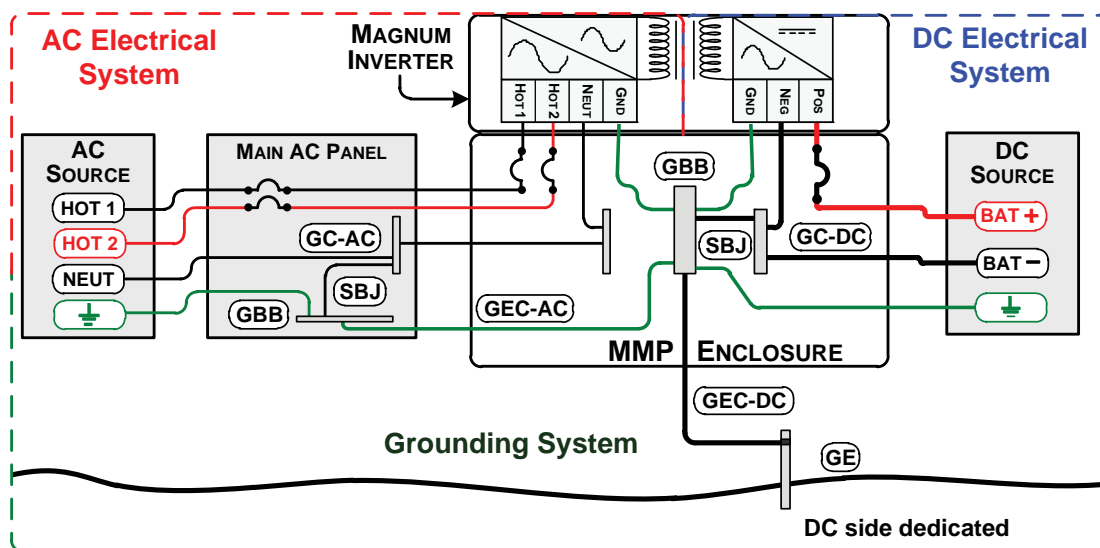

Figure 2-19, Single Connection to DC Ground Rod (Method 1)
1. Single Connection to Ground (Method 1): The AC Grounding Electrode Conductor (GEC-AC) is bonded to the DC ground point and the DC Grounding Electrode Conductor (GEC-DC) is the *only connection* to the grounding electrode, which must be a rod, pipe, or plate electrode (see Figure 2-19).